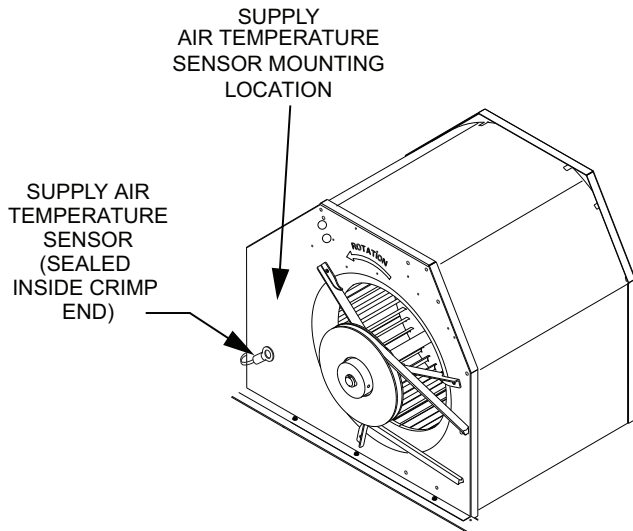
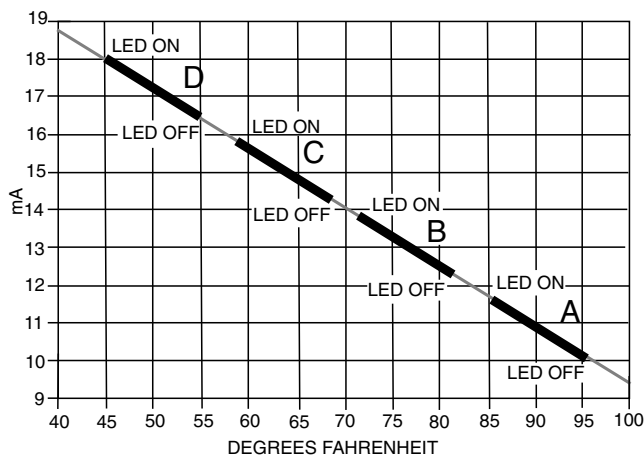

Fig. 67 — Supply Air Sensor Location
Fig. 68 — Outside Air Temperature Changeover Setpoints
The outdoor air temperature sensor (HH57AC074) is a 10 to 20 mA device used to measure the outdoor-air temperature. The outdoor-air temperature is used to determine when the EconoMi\$er IV can be used for free cooling. The sensor is factory-installed on the EconoMi\$er IV in the outdoor airstream. (See Fig. 67.) The operating range of temperature measurement is 40°F to 100°F (4°C to 38°C). See Fig. 68.
The supply air temperature sensor is a 3 K thermistor located at the inlet of the indoor fan. (See Fig. 67.) This sensor is factory installed. The operating range of temperature measurement is 0°F to 158°F (–18°C to 70°C).
3. Ensure that the factory-installed jumper is in place across terminals P and P1. If remote damper positioning is being used, make sure that the terminals are wired according to Fig. 68 and that the minimum position potentiometer is turned fully clockwise.